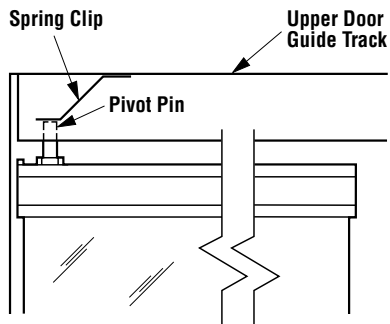

Figure 3
Step 4. Continue to tilt the top of the door into place until the upper pivot pin engages the spring clip and the pivot pin locks into place within the hole of the spring clip (see *Figure 3*).